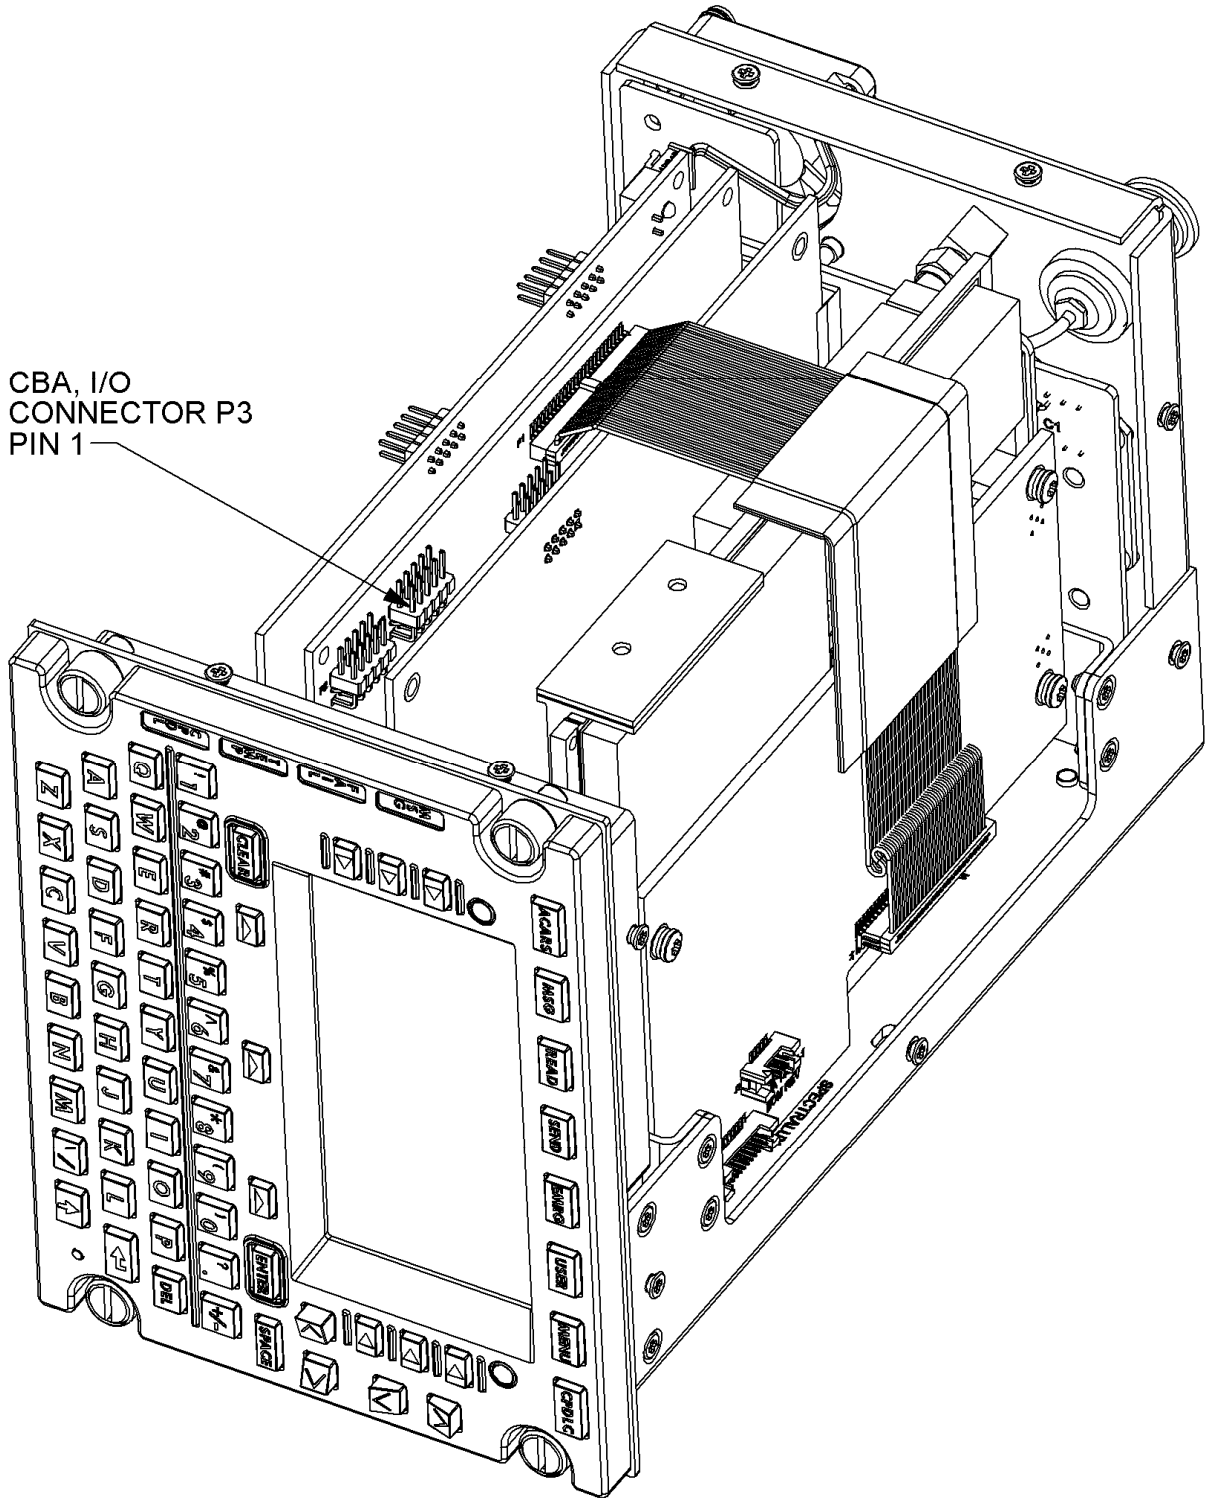

Figure 4. IO Programming Connector
- (9) Disable power.
- (10) Remove the USB-ML-PPCBDM ribbon cable from the SBC and attach to P3 on the IO CBA. Install so that the red edge of the ribbon cable is nearer to pin 1. See **Figure 4. IO Programming Connector**.
- (11) Enable power.
- (12) Double click the ProgramIO.exe shortcut in C:\Dlink_Configuration_Loader\Mod2. A programming window will appear showing status. If programming is successful, the following will appear in the programming window. Click Quit.
- (13) Disable power.